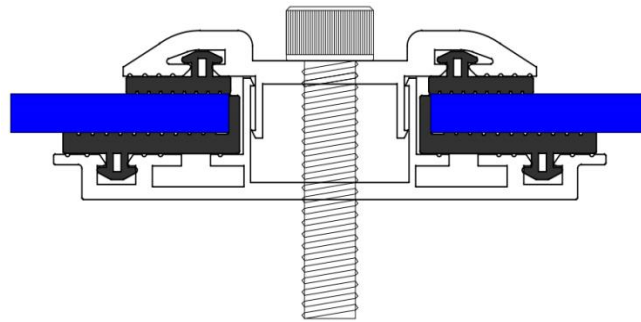

Figure 3 Cross-section structure of clamp
- B. The modules clamps must not contact the glass directly or deform and damage the glass in any cases, clamp need embedded with the rubber washer, which plays a buffer function when install double glass module and the contact area of clamp with the glass surface must be smooth, otherwise maybe damage the modules. Avoid shading effects from the modules clamps. We suggest you use the bolt show in figure 3, which also needs to make sure the bolt not too high to cause the shading problem.